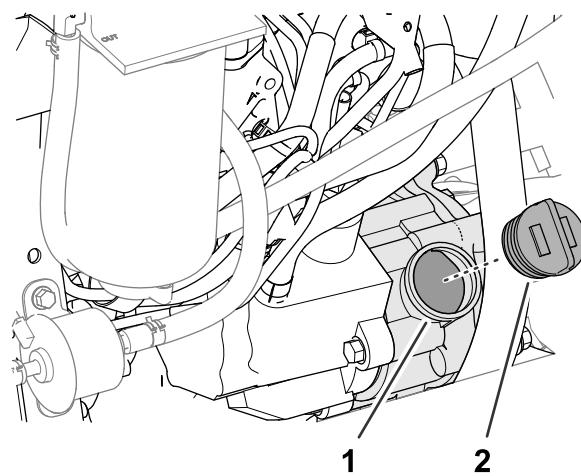

Figure 124
5. If the oil level is low, remove the oil-fill cap (Figure 124) and gradually add small amounts of oil, checking the level frequently, until the level reaches the Full mark on the dipstick.